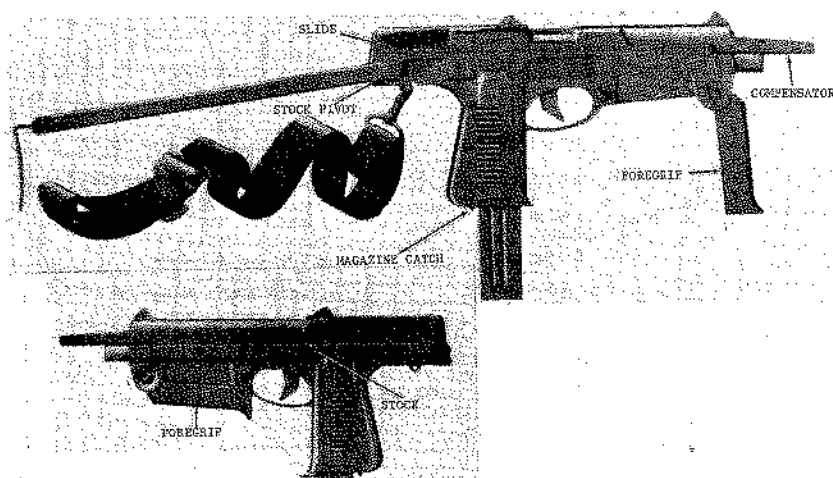

Figure 28. Polish Wz63 machine pistol.
The Wz63 machine pistol (fig 28) has been issued only to Polish Army units. This weapon is similar in concept to the Czechoslovak Skorpion machine pistol (para 37); however, the Polish pistol fires the more powerful 9x18-mm Makarov cartridge (sec VI). The Wz63 has a folding stock, and the forestock can be swung down for use as a second handgrip. The slide has an extension that protrudes beyond the muzzle to act as a compensator to reduce muzzle climb in automatic fire. The Wz63 commences its firing cycle from the open slide position, and its mode of fire, full or semiautomatic, is controlled by the amount of pressure applied to the trigger.
a. To operate the Wz63 machine pistol, first load the magazine in the same manner as the Vz61 machine pistol magazine (para 39a). Insert a loaded magazine into the butt of the pistol until the magazine catch snaps into place. Grasp the slide at its rear end and pull it to the rear until it is caught by the sear. Alternatively, the compensator (fig 28) can be placed against a firm surface and the pistol can be pushed forward; this latter method is convenient in an emergency.
b. When preparing to fire at longer ranges, press the catch on the stock pivot (fig 28) upward and unfold the stock. Pull the forestock down for use as a handgrip. For short range firing, the stock and grip can remain folded and the Wz63 can be used as a conventional pistol. Flip the rear sight leaf rearward or forward for the desired range (the rearward leaf is used for 200-meter shooting) and rotate the safety to its horizontal position. Aim, using a normal pistol-type sight picture, and press the trigger to fire. Light pressure on the trigger will fire one shot; heavy pressure will cause the machine pistol to fire automatically. When the last round in the magazine has been fired, the slide will remain to the rear.
c. To clear the Wz63, press the magazine catch (fig 28) and remove the magazine. Pull the slide rearward and inspect to insure that no cartridges are present. Hold the slide, press the trigger, and ease the slide forward, and insert the magazine.